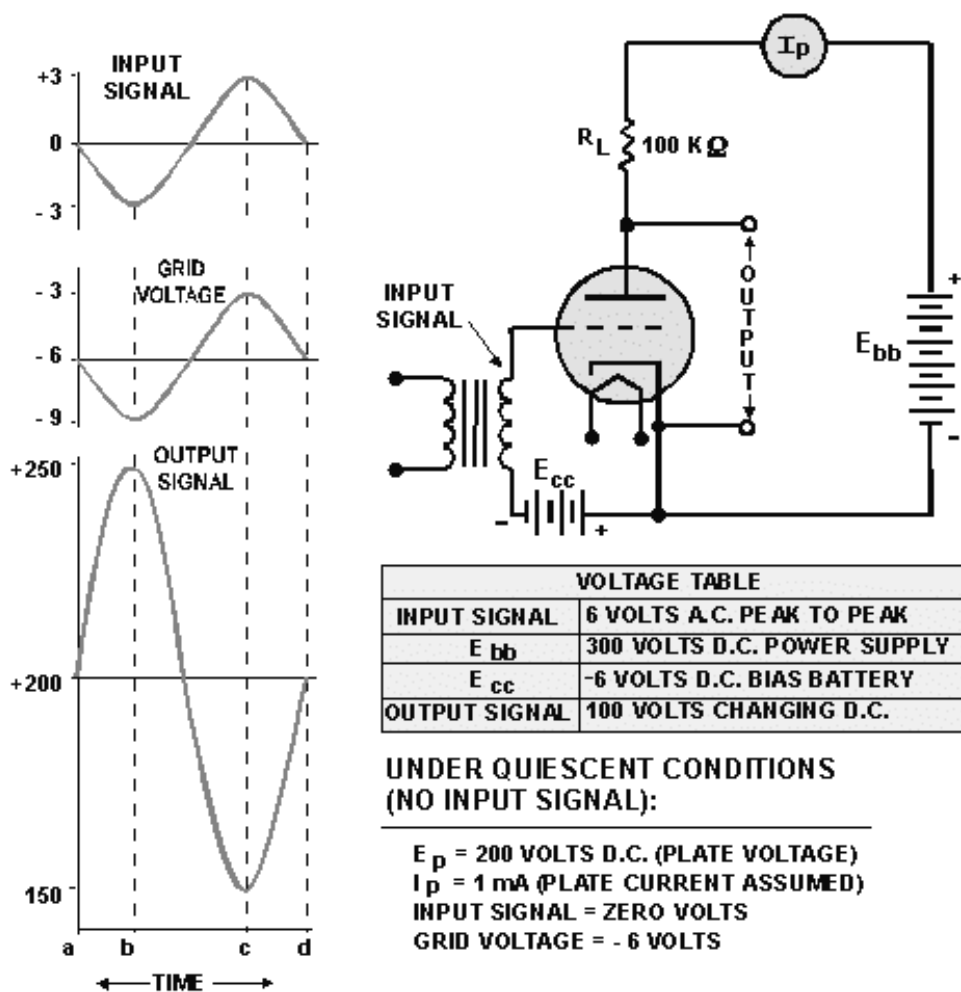

Figure 1-19.—Triode operation.
The circuit in figure 1-19 brings together all of the essential components of a triode amplifier. Before analyzing the circuit, however, we need to define the term **QUIESCENT**.
Simply, quiescent describes circuit conditions when the tube is not amplifying. The tube has no output signal and is in a kind of standby, waiting condition. Now let's go on to figure 1-19. With no input signal, under quiescent conditions, assume that 1 milliamperes of current flows through the tube, cathode to plate. This current (I_p) will flow through R_L (load resistor) to the positive terminal of the battery. The current flowing through R_L causes a voltage drop (IR) across R_L equal to:
These values are shown on the waveforms as time a in figure 1-19.
Before going on to the next section, there is one more thing of which you should be aware. Look again at the waveforms of figure 1-19. Notice that the output voltage of the amplifier is 180° out of phase with the input voltage. You will find that this polarity inversion is a characteristic of any amplifier in which the output is taken between the cathode and the plate. This is normal and should not confuse you when you troubleshoot or work with this type of circuit.
- Q18. A triode amplifier similar to the one shown in figure 1-19 has an E_{bb} -350 volts dc. The plate-load resistor is 50 kΩ. Under quiescent conditions, 1.5 milliamperes of current conducts through the tube. What will be the plate voltage (E_p) under quiescent conditions?*